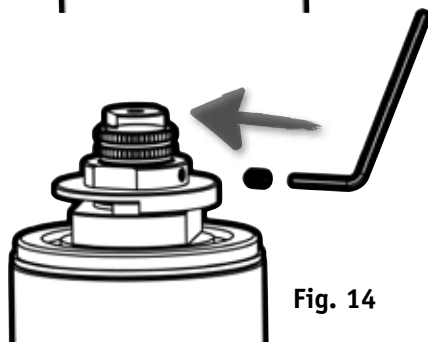

Fig. 14
8) Insert HANDLE STOPPER SCREW 10 into SECURING HOLE 11, making sure HANDLE STOPPER 12 stays in the TURN LOCKING POSITION (Fig. 14)